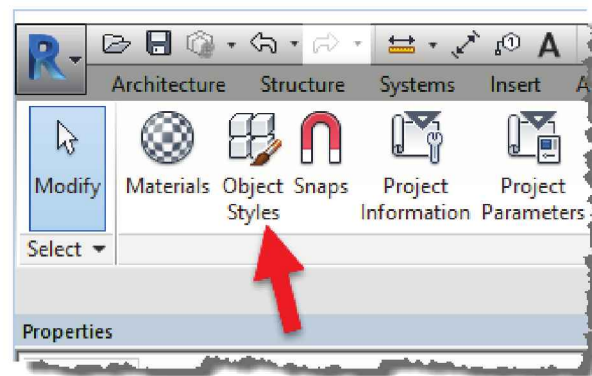

FIGURE 11-2.7 Object Styles tool
19. Select **Manage** → **Settings** → **Object Styles** (Fig. 11-2.7).